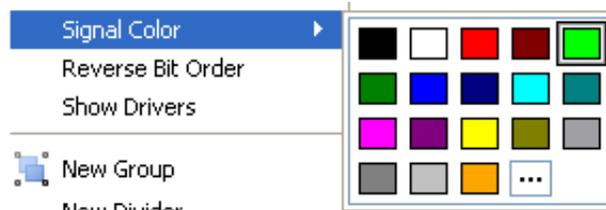

Figure 4-27: Changing the Signal Color
2. Select **Signal Color**, then pick a color from the color palette, or a custom color by clicking on the ellipsis (...) button. (Refer to Figure 4-27.)